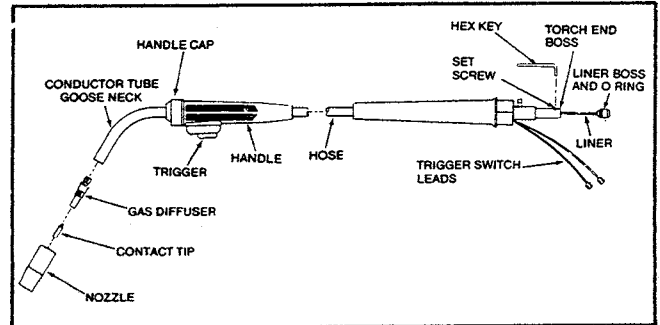

Figure 36.
2. A Teflon liner should be used in the torch assembly. See Figure 36 The liner allows the aluminum wire to slide easily through the torch assembly. Steel particles will contaminate an aluminum weld.